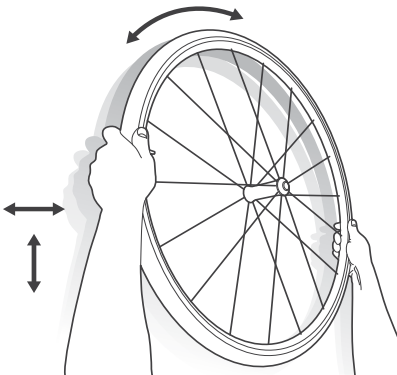

Figure 21. Spin/shake the wheel
5. While holding the wheel, rock the wheel back and forth and spin to spread the sealant around the inside of the tire (Figure 21).